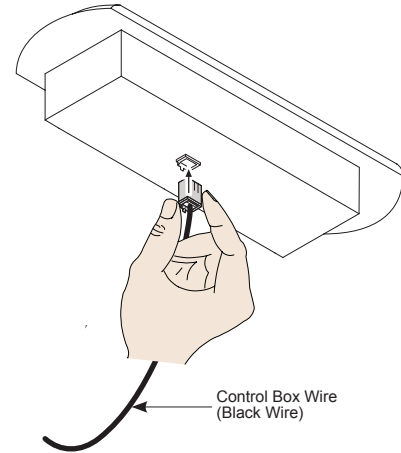

Figure 5 - Control Panel
- 1** Insert the wire connector into the back of the control panel (Figure 5).